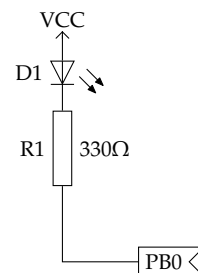

Figure 1: How a standard LED is connected to the AVR in our example.
- a standard LED with a current limiting resistor is connected between VCC and PB0 see figure 1;
After power-up, the port pins — including PB0 — are configured as inputs. This means that they do not source or sink current, and the LED as shown in figure 1 will not light up. What we need to do is to tell the AVR to pull the port pin low. The situation then changes for the LED, because the voltage at the LED’s cathode is now close to 0V. Current can flow, limited by R1, the the LED lights up. Pulling a port pin low is a simple task, yet requires some knowledge about the basic features of AVR I/O ports.